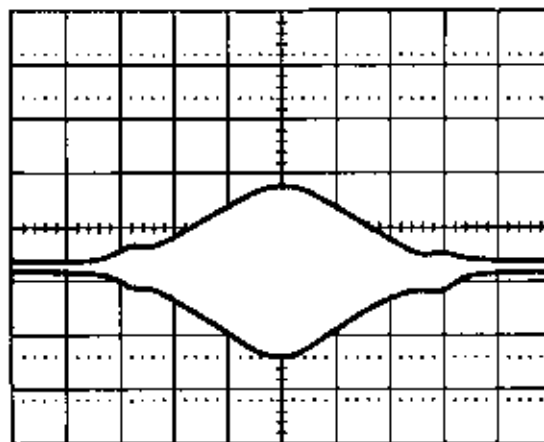

Figure 5-35. 50 MHz Birdie
- Adjust oscilloscope Channel B vernier for a horizontal deflection of exactly 10 divisions. Set 8350A **CF = 1 GHz**,  **$\Delta F = 10$  MHz**. Select 50 MHz Markers. Center the birdie envelope on the screen with plug-in front panel **FREQ CAL** control. (See Figure 5-35.) Then select 10 MHz Markers. Change  **$\Delta F$**  to 1 MHz. Recenter birdie. Display is now calibrated for 100 kHz/Division.